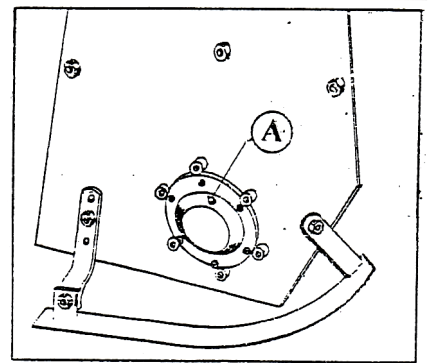

Figure 18. Lubrication of the rotor shaft
**LUBRICATION:** The rotor shaft assembly should be regularly lubricated with a Tekalemit pump filled with SAE 90 oil (see figure 18, item A). Before starting lubrication with the grease nipples, you need to remove the dust from them with a cloth.